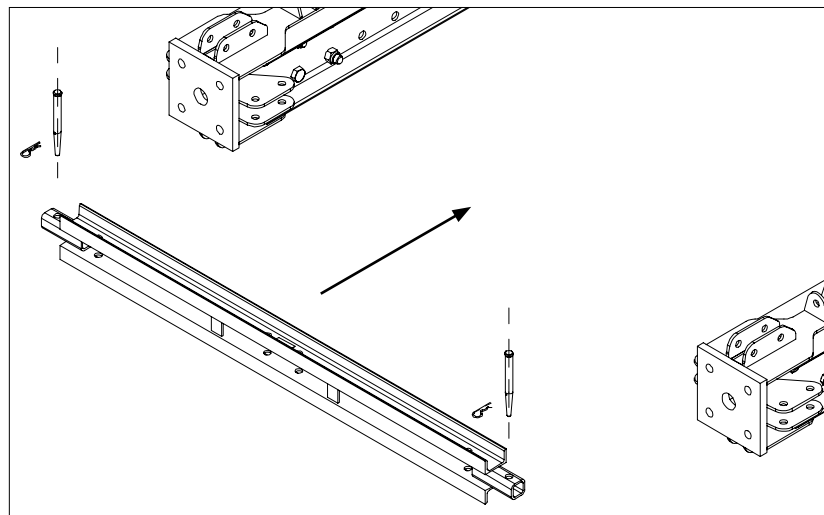

Fig. B3.01b
4. Repeat the procedure for all Horizontal Ledgers VST 200 (23). (Fig. B3.01b)